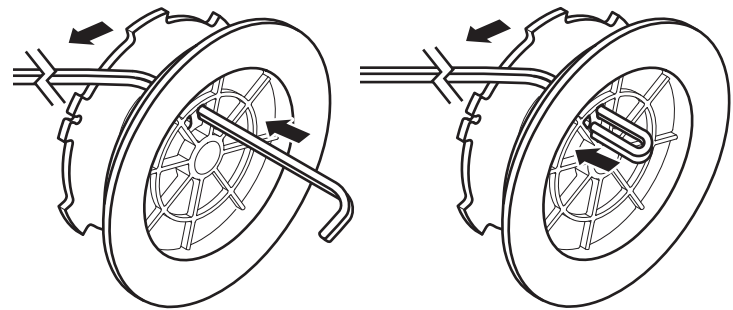

Fig. 31
2. Insert one line end through one of the two holes in the inner reel. Pull the line through the inner reel until about 4 inches (10 cm) remain (Fig. 31).
3. Insert the end of the 4-inch section into the open hole in the inner reel and pull the line tight to make the loop as small as possible (Fig. 31).